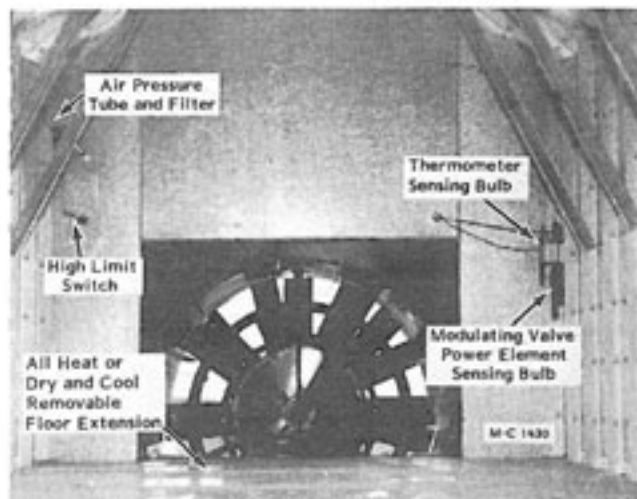
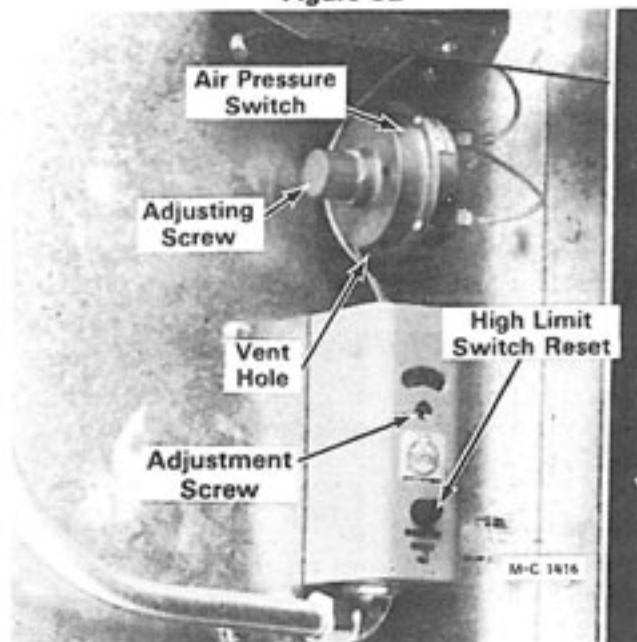

Figure 32
Figure 32A
6. Remove the air pressure switches and clean the tube and filter, see Figure 32. Be sure the vent hole in the bottom of the air pressure switch body is open, see Figure 32A.
4. Disconnect the two wires at the back of each air pressure switch (there is one for each burner), see Figure 32A. Connect the two wires together with a short jumper wire. Do not allow the jumper wire to come in contact with any metal. This will by-pass the air pressure switch.
5. Turn on the electric power supply to the dryer. Flip the control circuit toggle switch ON. The control circuit ON light and high limit lights will be on. If any high limit light is not on, push the reset button on the high limit switch, see Figure 32A.